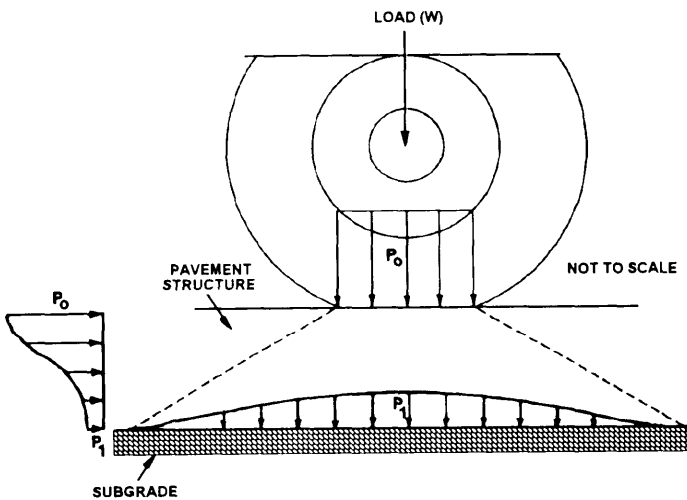

Figure 16-3.—Spread of wheel load through the pavement structure.
Figure 16-3 shows the wheel load (W) being transmitted to the pavement surface through the tire at an approximately uniform vertical pressure (P405). The pavement then spreads the wheel load to the foundation, so the maximum pressure on the foundation is only P415. By proper selection of pavement materials and with adequate pavement thickness, P415 will be small enough to be easily supported by the subgrade.